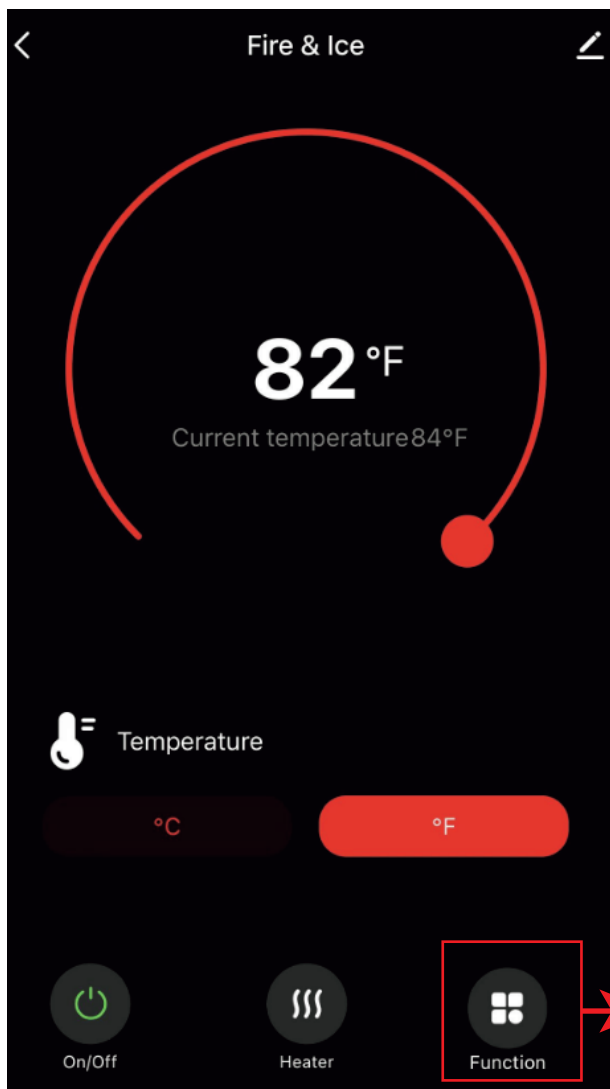

Figure 6
3. You will proceed to the app interface (Figures 6 and 7) and can operate the fireplace via Wi-Fi.